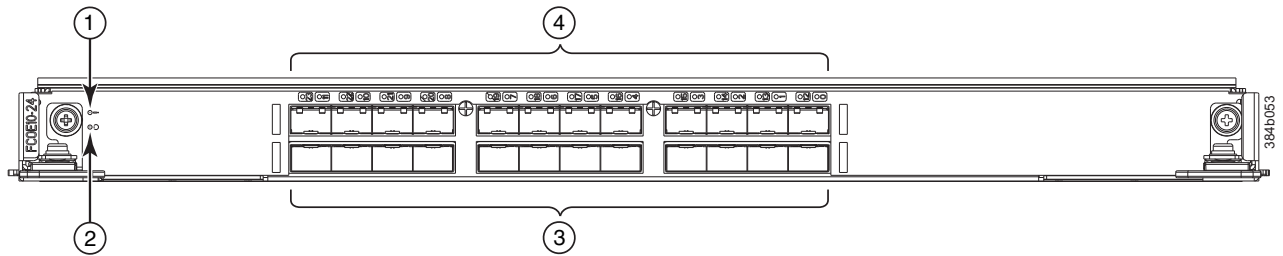

Figure 27. FCOE10-24 blade
- Figure 27 on page 53 illustrates the FCOE10-24 Fibre Channel over Ethernet blade